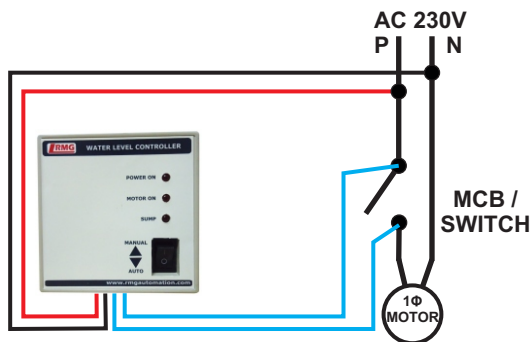

Figure1: 1Φ SWITCH/MCB
Step 2: Connect AC 230V to Red and Black wires of the controller respectively (refer figure 1 and 2)
Step 3: For Switch or MCB, connect Blue pair wires to the switch/MCB of the motor as shown in figure 1.